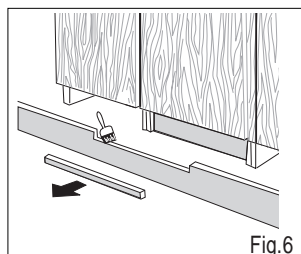

Fig.6
3. If so, rest the bottom edge of the panel on the base moulding and mark the part to be cut. Leave at least 3 mm of the play between the panel and the base moulding to allow for the door to rotate freely (see Fig.6).
4. Remove the base moulding and trim it as needed, protecting the surface that has been cut with a paint or similar wood finish (see Fig.6).